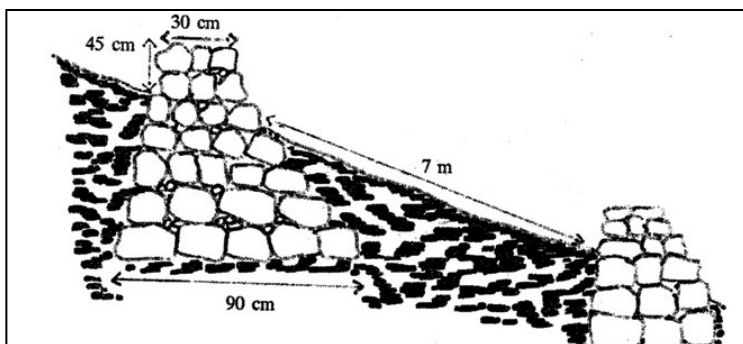

Fig. 3.
- Terraces can be built with 90 cm base converging to 30 cm at top level and 45 cm above ground level on the upper side (Fig. 3).